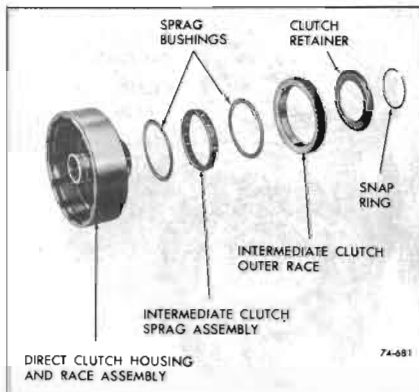

Figure 74-681
1. Inspect sprag assembly for popped or loose sprags. See Figure 74-681.